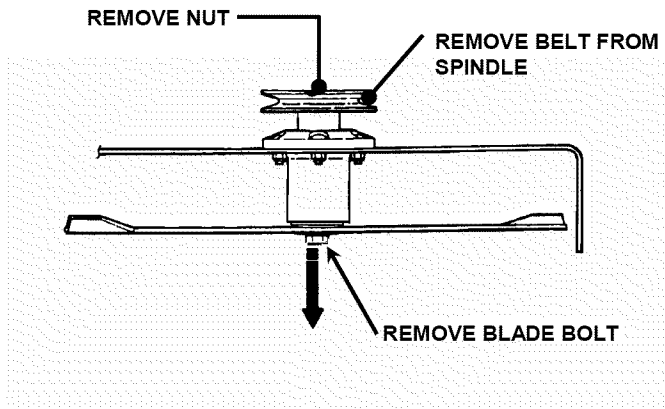

FIGURE 3.9
1. Remove belt. Loosen blade nut and remove. Allow blade bolt, washer, blade and four spacers to drop down out of the spindle housing. See Figure 3.9.